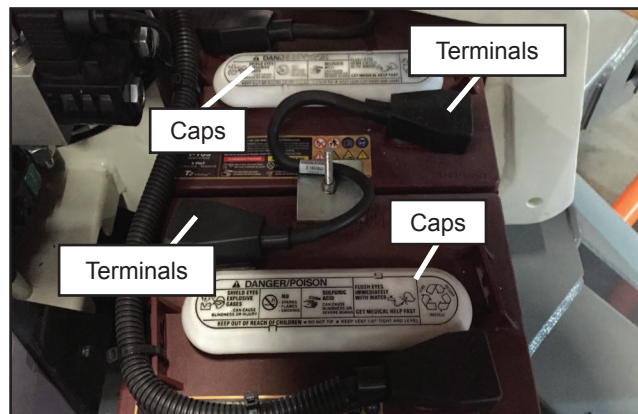

Figure 2-5 – Battery tray
1. Check the top of the battery, the terminals and cable ends (refer to Figure 2-5). They should be clean and free of corrosion.
1. Remove the caps from the batteries (refer to Figure 2-5).